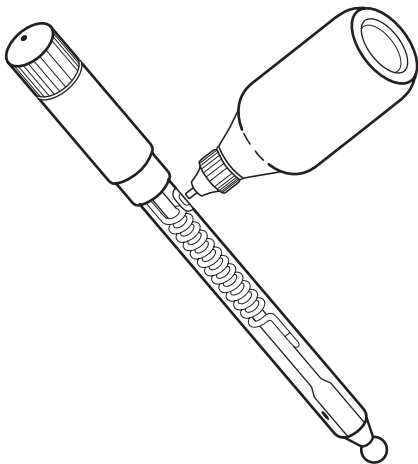

Figure 2: Filling an Electrode
3. Uncover fill hole and add ROSS™ Filling Solution, Orion 810007, to electrode. See **Figure 2**. To maintain an adequate flow rate, the level of filling solution must cover the end of the coil and be at least one inch above the sample level on immersion. The fill hole should be open whenever the electrode is in use.